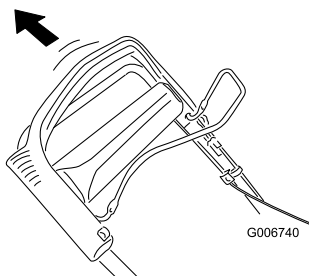

Figure 26
2. Pull the upper handle back fully rearward (Figure 26).